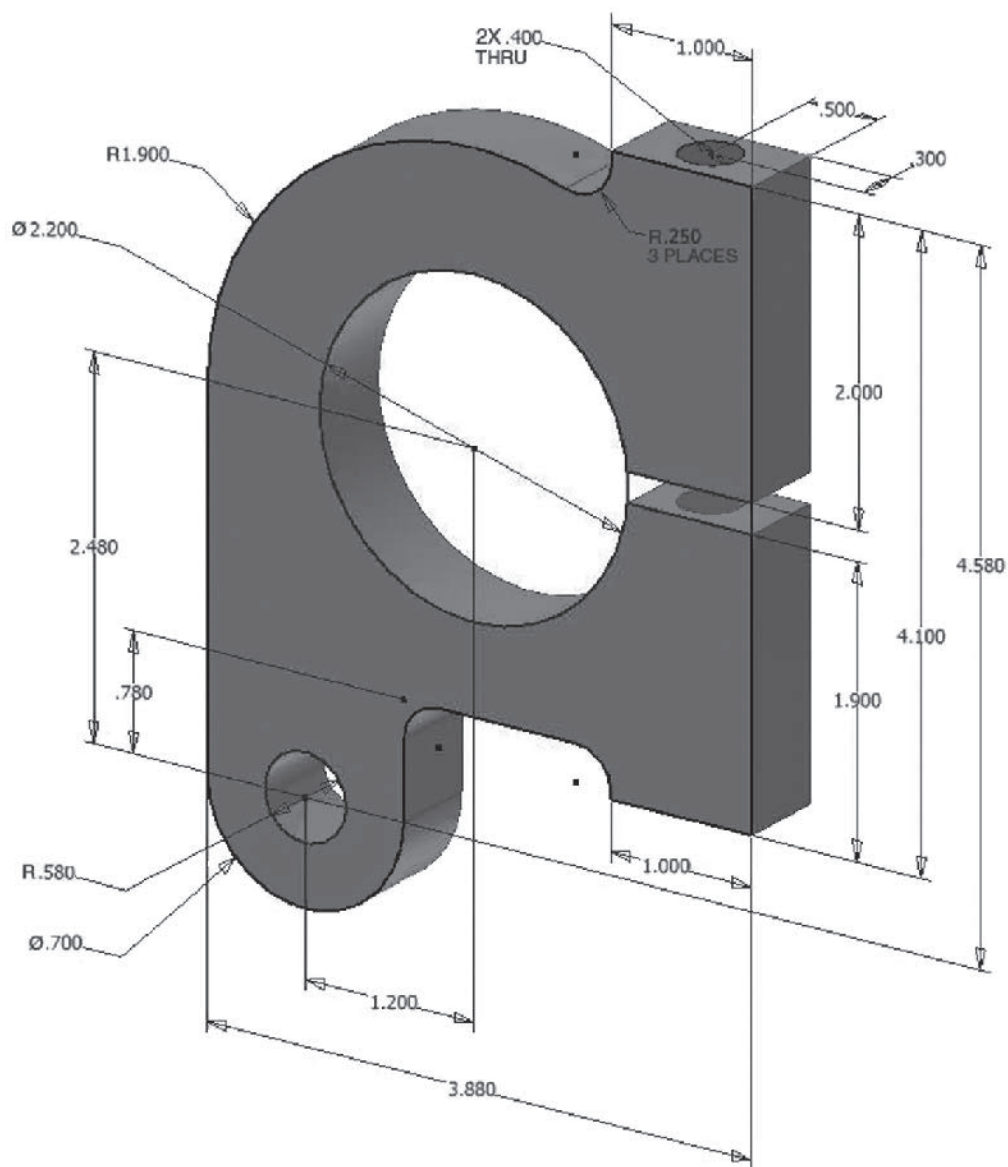

Fig. 44-16
2. Create the shaft clamp shown in Fig. 44-16 using the **SUBTRACT** and **EXTRUDE** commands. Create the .40-diameter hole by inserting and subtracting a cylinder. Display the model in the **Conceptual** visual style.